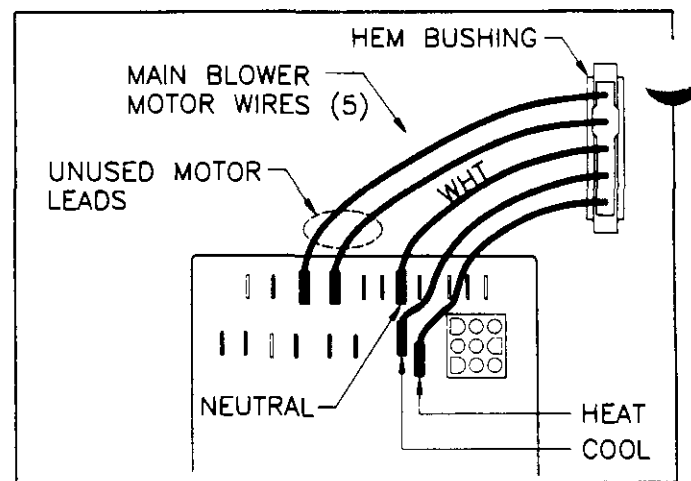

FIGURE 39
- To change cooling speed, move the desired motor lead to the terminal marked 'COOL' on the Control Module. See Figure 39. Initial factory setting for cooling is high speed (black wire).
- To change the heating speed, move the desired motor lead to the terminal marked 'HEAT' on the Control Module. See Figure 39. Initial factory setting for heating is listed in Figure 40. Heating speed should not be reduced below initial factory setting.
- Connect the two unused motor leads to the terminals marked 'UNUSED MOTOR LEADS' on the Control Module. See Figure 39.